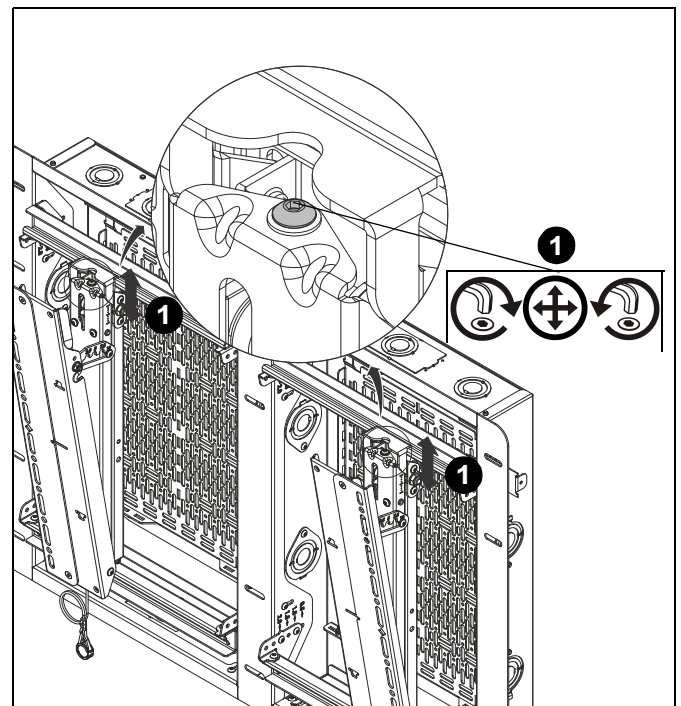
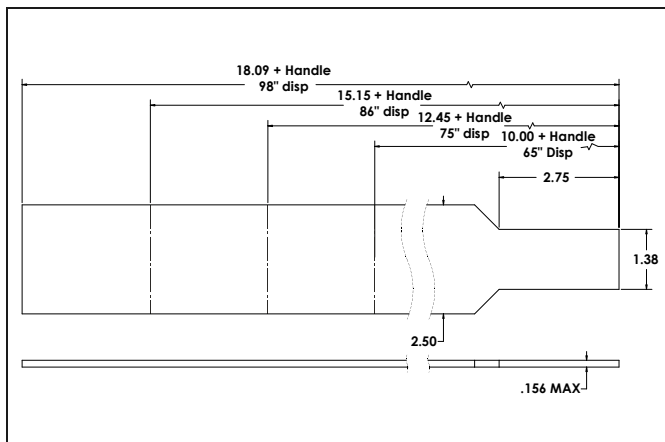

Figure 29
Figure 31
1. Adjust micro height-adjustment screws to make minor adjustments to height of each interface bracket (A and B). (See Figure 29)
1. Refer to the dimensions in Figure 29 or use template and table provided on page 19 to create a cardboard shim tool. (See Figure 31)